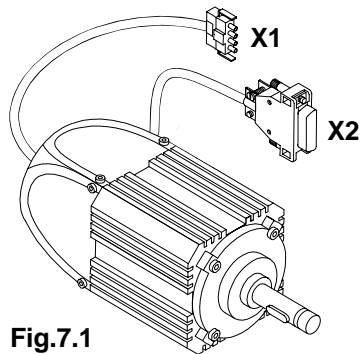

Fig.7.1
Motor QE3760 / QE5540 (Fig.7.1) with integrated optoelectronic incremental encoder for commutation and positioning.
- a) four-wire with special quadripolar AMP plug (X1 Fig.7.1) for connecting the stator coil to the control system